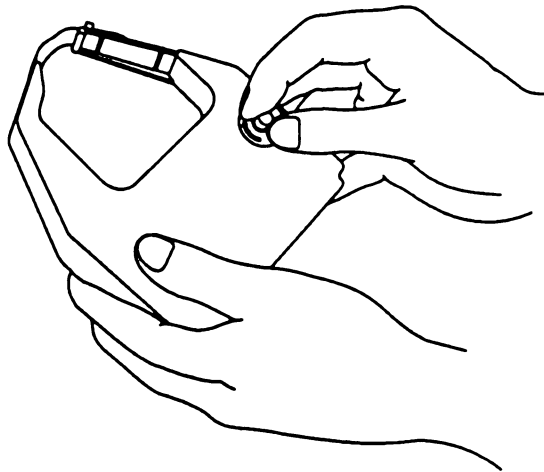

Figure 3. Tightening the ribbon
1. Locate the **ribbon knob** on the ribbon cartridge and turn the knob clockwise to tighten the ribbon, as shown in Figure 3.